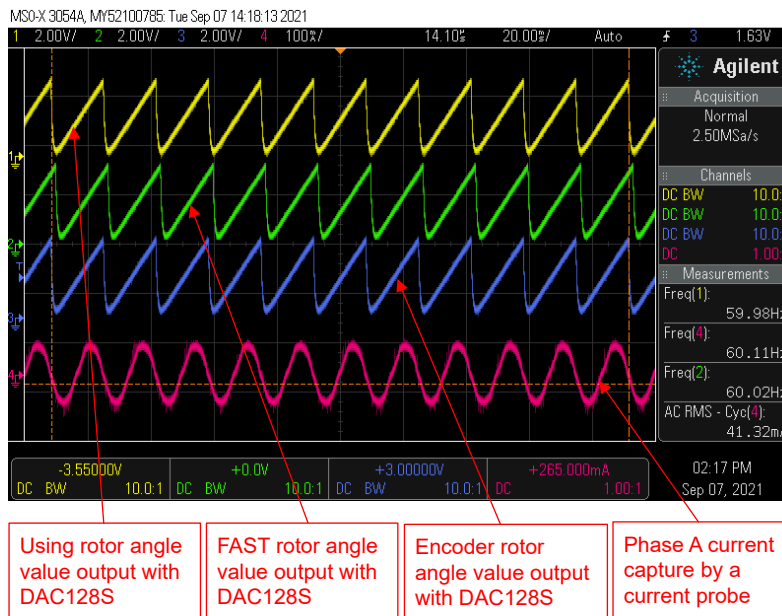

Figure 2-48. Build Level 4: Rotor Angle with eSMO and Encoder, Phase Current Waveforms at Forward Rotation
- The estimated rotor angles from eSMO and Encoder are shown in Figure 2-48. The motor is running with eSMO at forward rotation by setting motorVars_M1.speedRef_Hz to a positive value.
Use DAC128S085EVM with an oscilloscope to monitor rotor angle of the motor from the eSMO estimator and encoder, and a phase current of the motor as shown in Figure 2-48 when the motor is running at forward rotation by setting motorVars_M1.speedRef_Hz to a positive reference value.